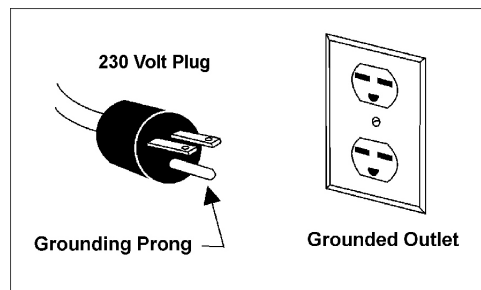

Figure 6
3. The 115V attachment plug (shown in Figure 6) supplied with the sander, must be replaced with a UL/CSA listed plug suitable for 230V operation (shown in Figure 7). Contact your local authorized JET service center